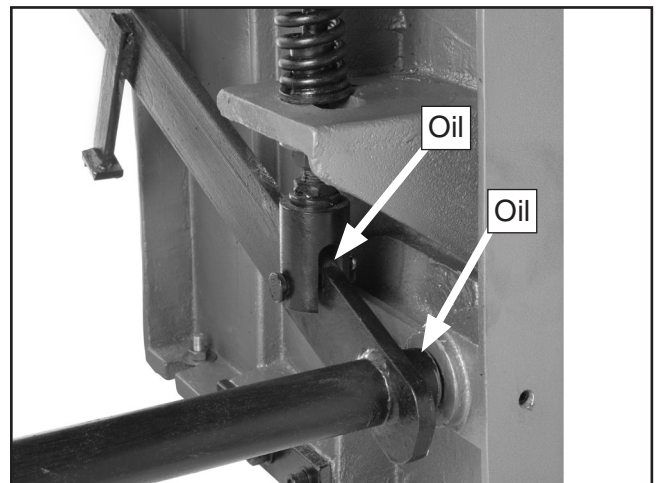

Figure 30. Linkage lubrication.
- Foot pedal linkage (**Figure 30**).